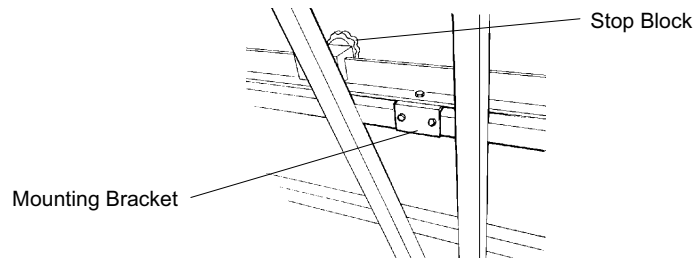

Figure 42: Installing the Quick Stop (viewed from rear of frame)
1. Attach the two mounting brackets to the long aluminum angle bar of the Quick Stop as shown in Figure 42, using the screws provided.